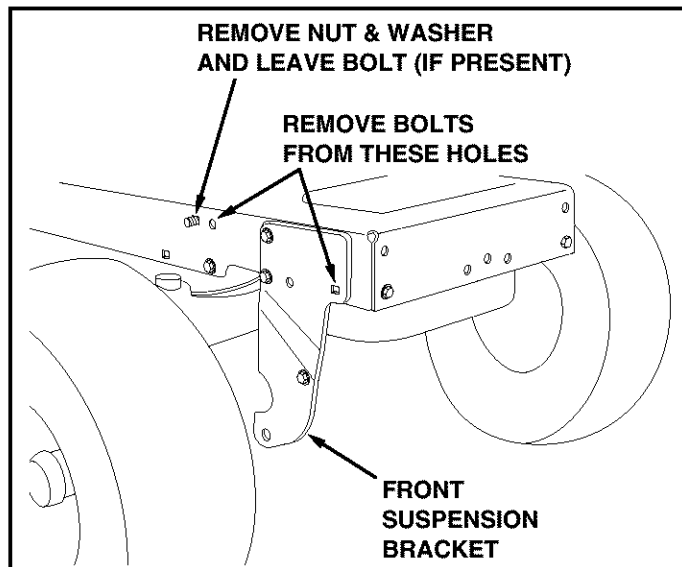

FIGURE 1 RIGHT SIDE VIEW
- Remove two bolts from each side of the tractor frame as shown in figure 1.
- If there is a third bolt on the right side, as shown in figure 1, remove the nut and washer from the bolt.